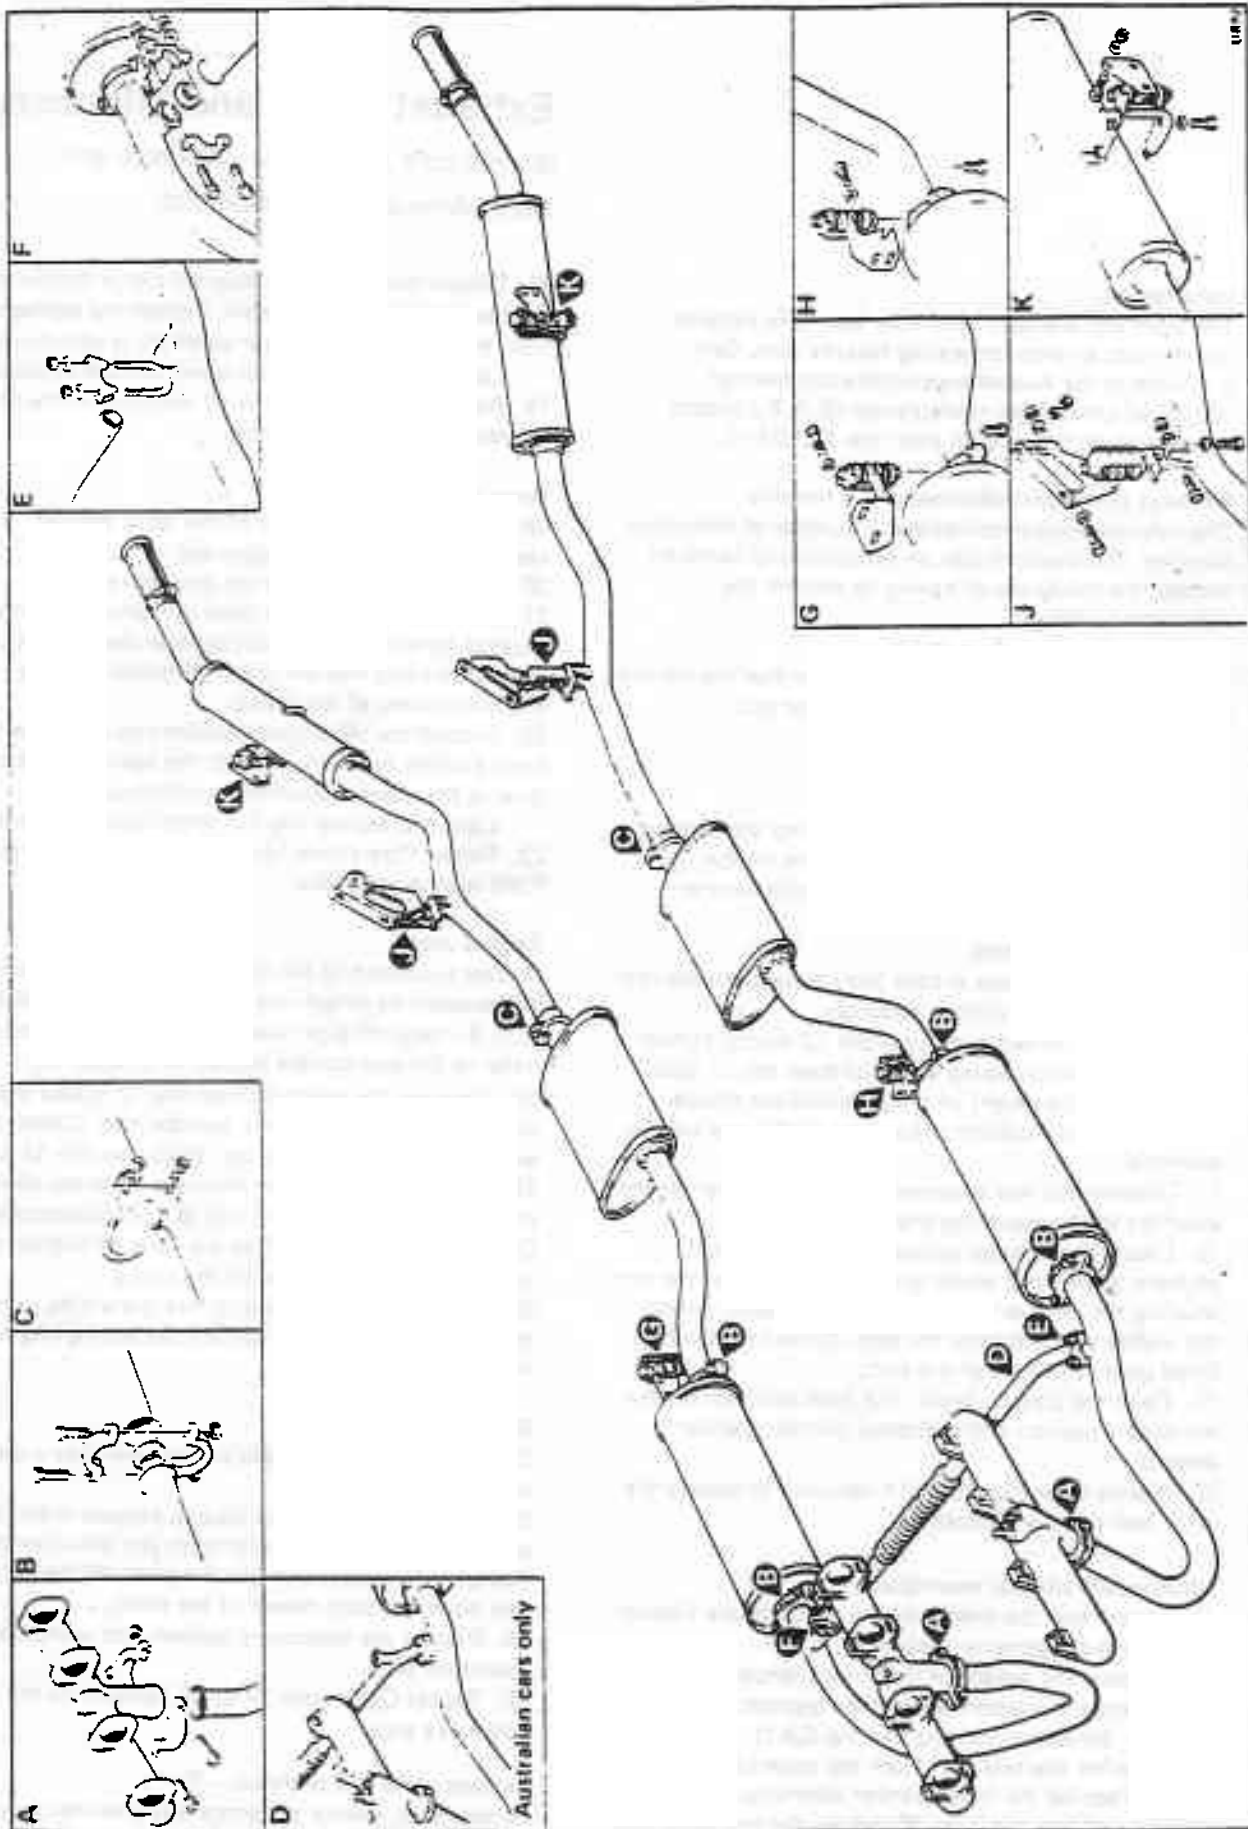

Fig. Q3-1 Exhaust system
The pipes and silencers form a six box twin exhaust system with an interconnecting balance pipe. Cars produced to the Australian specification have an additional exhaust gas recirculation (E.G.R.) system connection on the balance pipe (see fig. Q3-1).
15. Unscrew the setscrew from the bottom of the forward exhaust mounting (see fig. Q3-1).